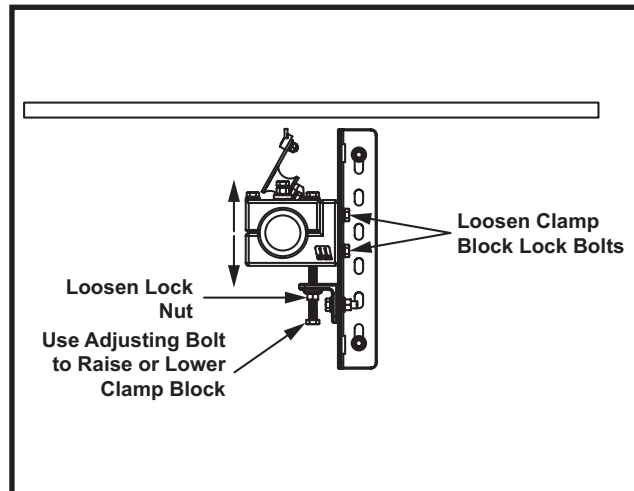

Figure 14. Martin® P2 Secondary Belt Cleaner HD Bolt Tensioner Adjustment Hardware
There should be no tip-to-belt contact while making this alignment. If contact occurs, lower the mainframe by loosening the clamp block lock bolts and winding down the adjuster bolts. (Refer to Figure 14.)
10. While all clamp block mounting bolts are slightly loosened, raise mainframe by rotating up the adjuster bolts on both sides until light contact is made between the tips and belt across the entire width of the cleaner. (Refer to Figure 14.)